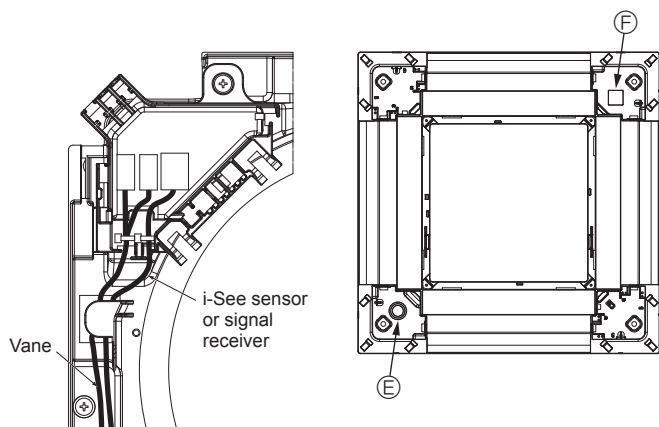

Fig. 10-13
- Route the i-See sensor and signal receiver wires as shown in Fig. 10-13.